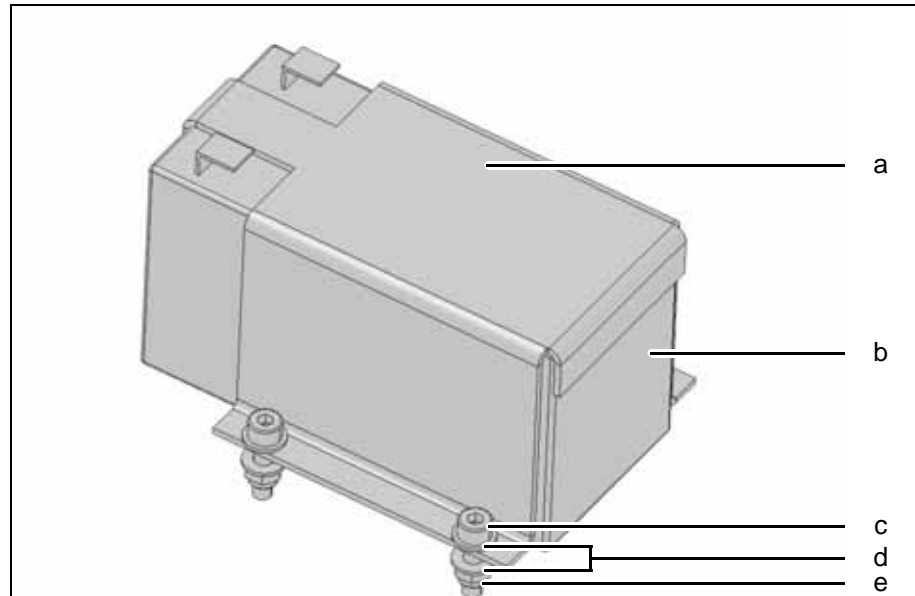

Fig. 6.57 Excitation battery holder (14V)
2. Remove the excitation battery holder (a). To do this, undo the four screws (c). See Fig. 6.57.